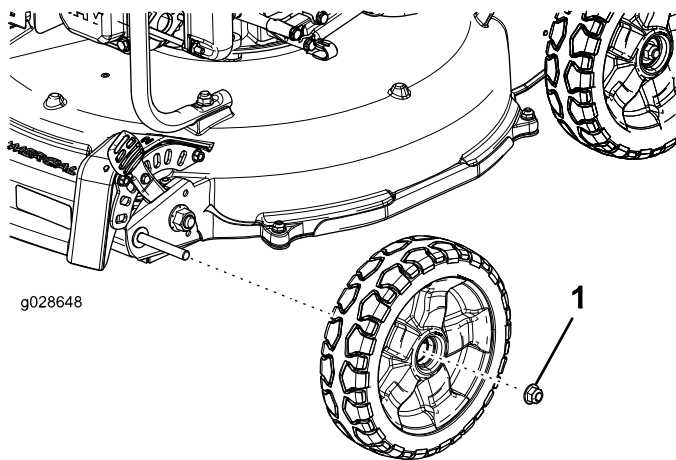

Figure 1
1. Remove the flange nut and the wheel from the machine (Figure 1).